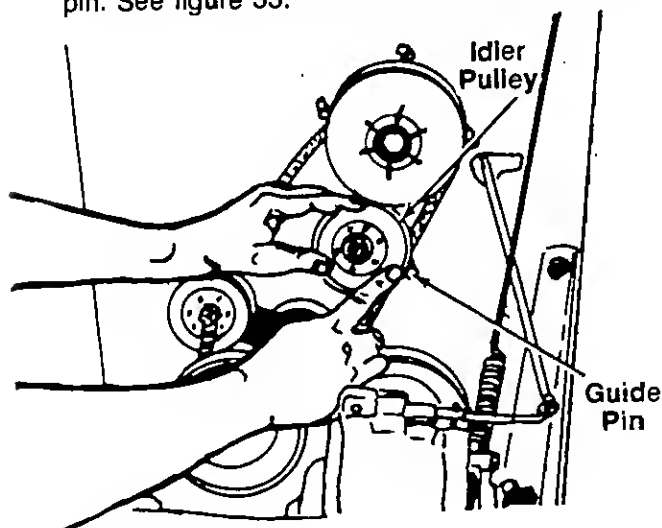

FIGURE 33.
11. When sliding the idler pulley on the idler bracket, be certain the belt is between the pulley and guide pin. See figure 33.